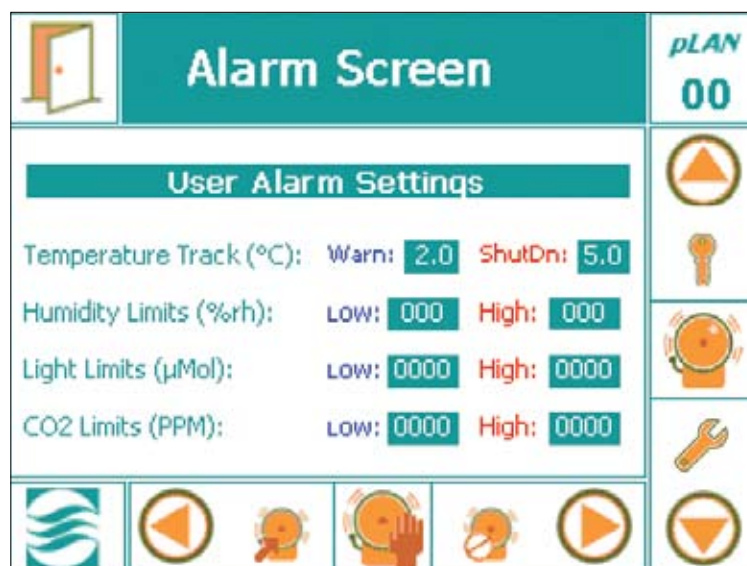
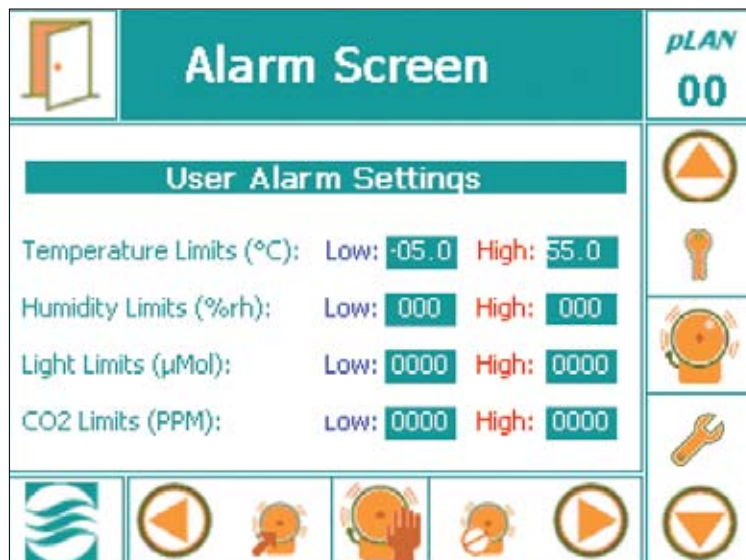

Figure 5-2: Alarm Screen in Ramp mode
Figure 5-3: Alarm Screen in Step mode
2. Tap the 'Alarm Settings' icon  to access one of the following screens, depending on whether the controller is set for Ramp or Step mode – Figure 5-2: Alarm Screen in Ramp Mode or Figure 5-3: Alarm Screen in Step Mode.